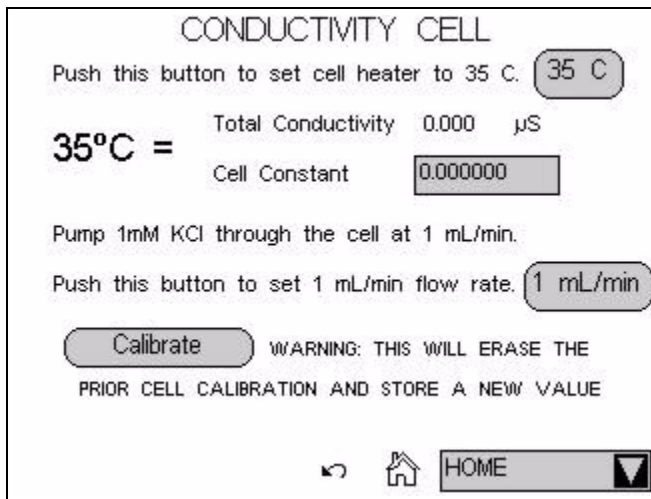

Figure 5-4. Conductivity Cell Page
9. If you are using the touch screens to perform the calibration, open the **CONDUCTIVITY CELL** page (see Figure 5-4).